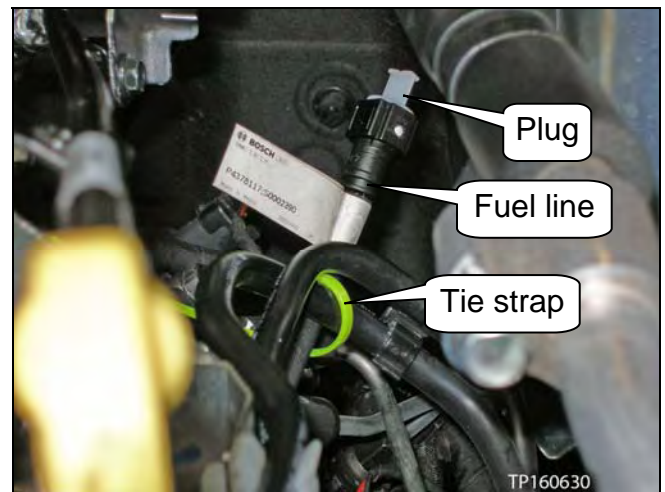

Figure 99
39. Carefully cut, and then remove the tie strap (see Figure 99).
40. Remove the plug and cap, and then connect the fuel line to the stage 2 fuel filter assembly (see Figure 99, 100, and 101).